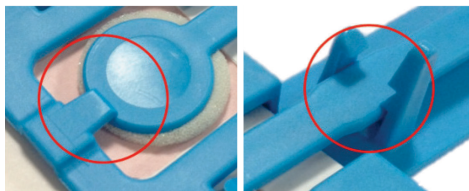

Figure 6. Correct foam head sample transfer position.
- Ensure the device is held in the sample transfer position for the full 10 s (Figure 6). Check that both the foam head is underneath the head tab and that the lower stem locking positions are used when the device is in the transfer position. This ensures a consistent amount of pressure is applied across the sampling area.